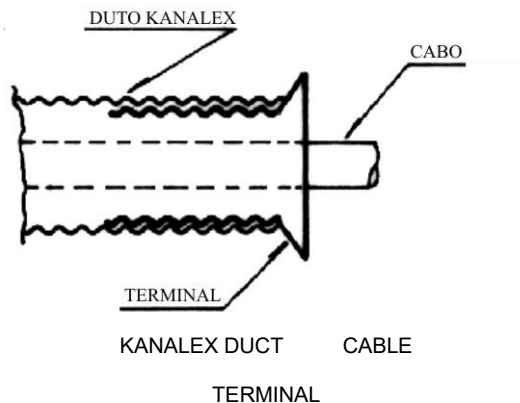

Figure 44
- b) After that operation, reintroduce the terminal into the duct, thus obtaining arrival at a conventional box (Figure 44).